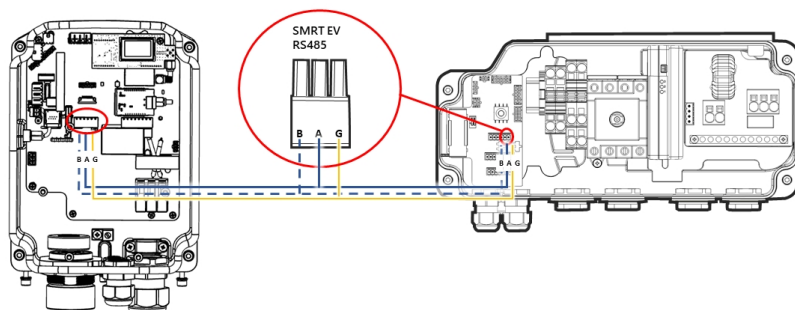

Figure 10: RS485 connection between the SolarEdge Home Wave Inverter, Single Phase (1), SolarEdge Home Hub Inverter (2) and the SolarEdge Home EV Charger
- c. Loosen the screws of the connector and connect the SolarEdge Home EV Charger wires according to the connector label B to B, A to A, and G to G, see Figure 10. The wire for G is not from the same twisted pair as A or B.